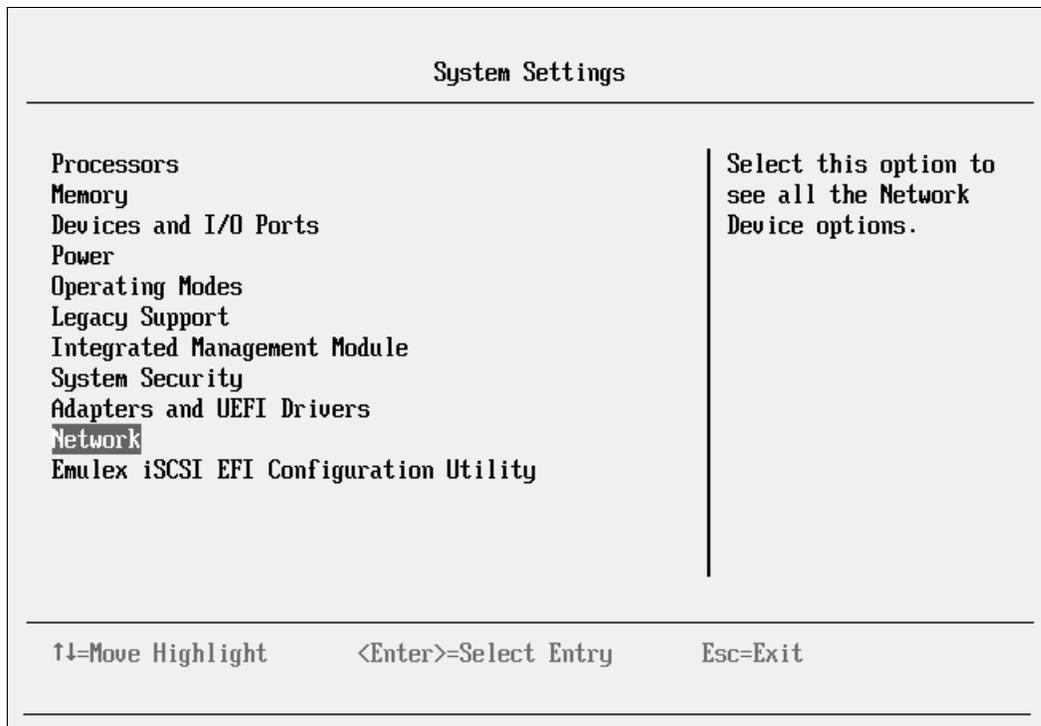

Figure 10-92 System Settings panel
4. In the System Settings panel (Figure 10-92), select **Network**.